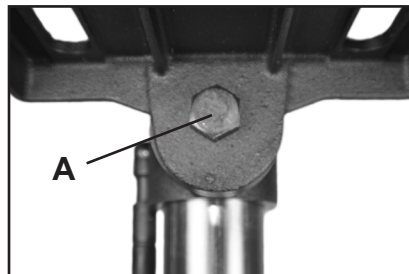
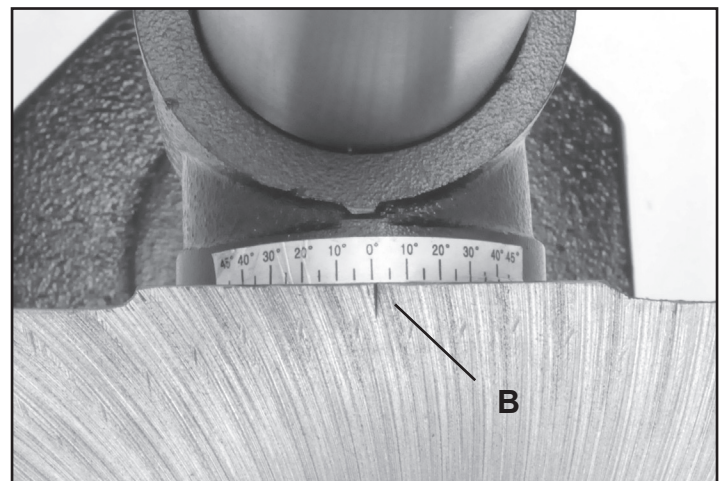

FIG. 8
FIG. 9
8. **TABLE TILT:** The drill press table will tilt 0-45 degrees left and right. To tilt, loosen the nut located under the table (FIG. 8, A). Align the “zero” mark on the table (FIG. 9, B) to the desired degree marking on the scale. Tighten the nut under the table to retain the adjustment.